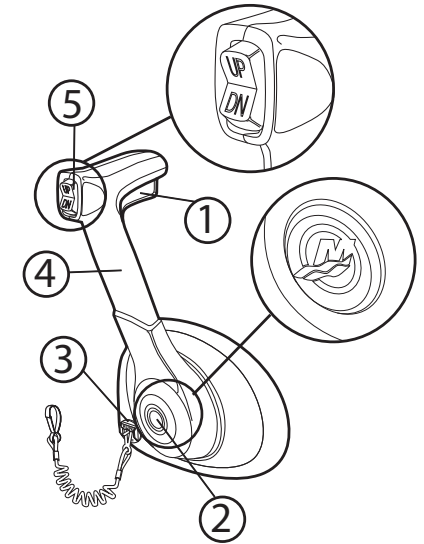

FIGURE 6-1 TYPICAL THROTTLE
The Engine Owner's Manual included with your Owner's Packet has detailed information about the throttle/shift control installed on your boat. The control serves two purposes: (1) it regulates the engine speed and (2) it acts as a gear shift lever to control the rotation of the propeller. When the handle is in the center, the gearshift is in neutral. As you move the handle forward and backward, you should feel the handle drop into a detent when the handle moves into the NEUTRAL position. The engine will not start unless the control is in NEUTRAL. Figure 6-1 shows a typical control.